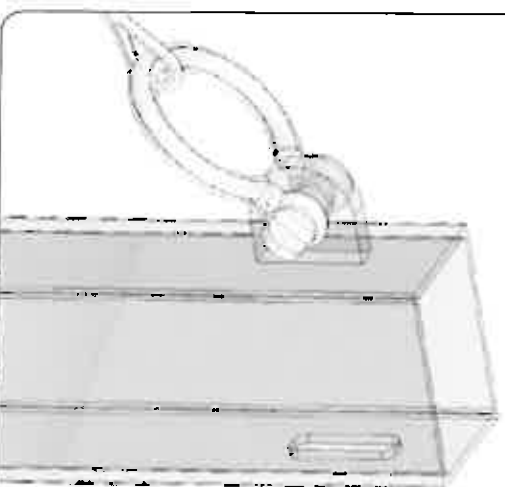

Fig. 11 Late Version cable-gin pole assembly details
- "B" and "C" model gin poles – connect the second cable to the welded tab on the gin pole using a shackle as shown in **Figs. 11 and 12**.